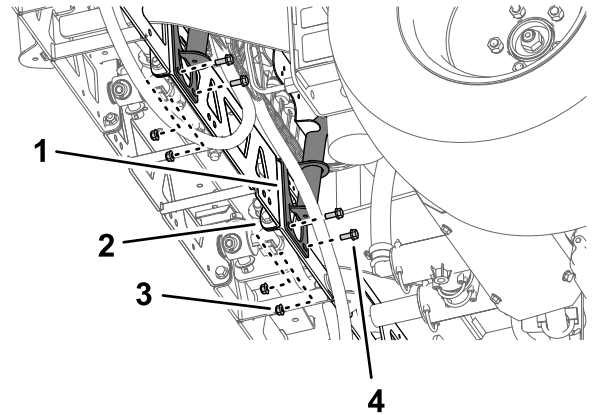

**Figure 109**
1. Using lifting equipment with the specified capacity, lift the valve mount and sprayer valve assembly and align it over the center-spray section (Figure 109).